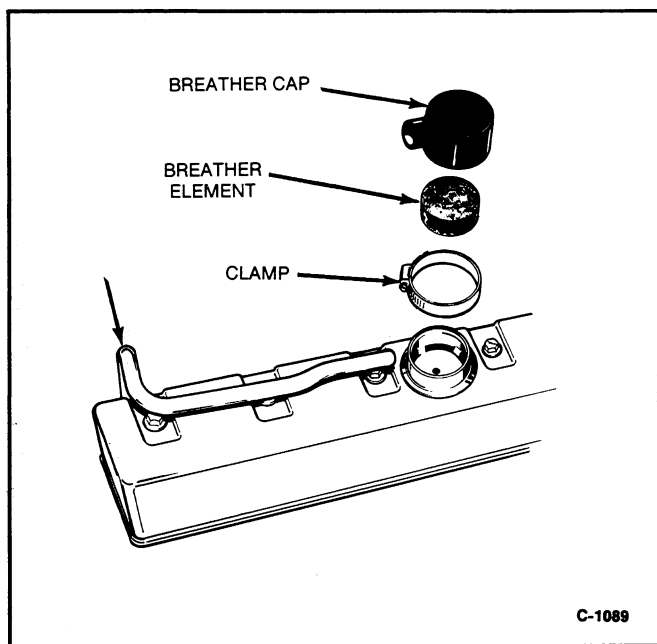

FIGURE 4-7. CRANKCASE BREATHER
**To Service:** See Figure 4-7.